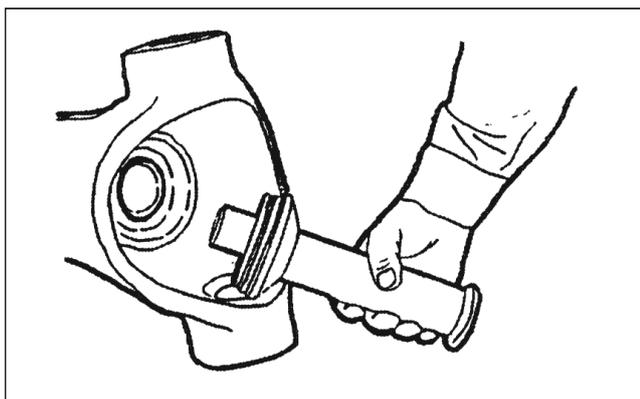

Fig. 5.6
6. Install the seals into the housing and the wheel-end spindle (Tool 5001). Fig. 5.6